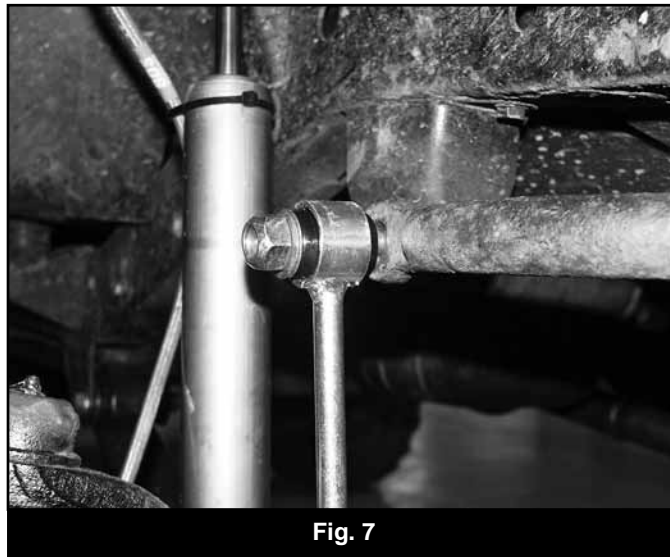

Fig. 7
33. Attach the sway bar link assembly to the sway bar with the provided 9/16" x 3" bolt, nut and 9/16" SAE washers, running from the inside out. Torque bolt to 75 ft-lbs. The sway bar link will mount to the outside of the sway bar (Fig 7).